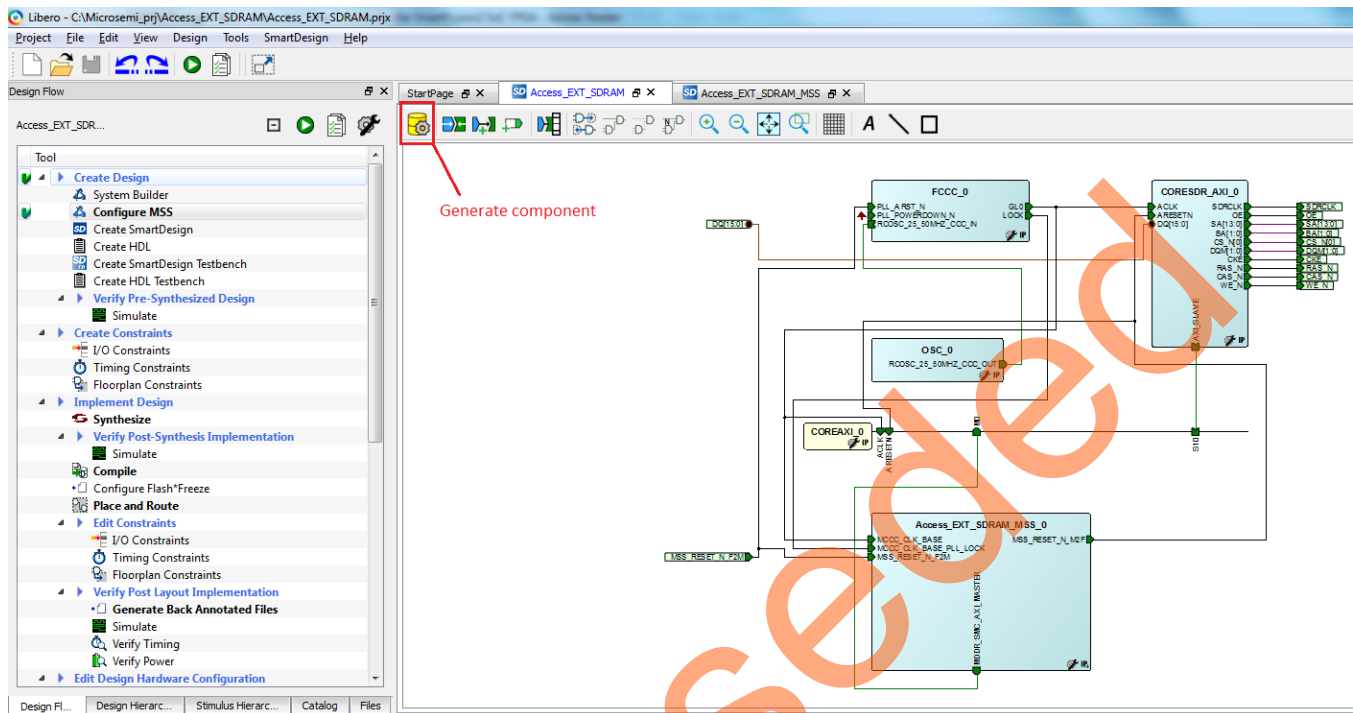

Figure 24. Generating MSS Component
1. Select **Access_EXT_SDRAM** tab on the **SmartDesign** canvas and click **Generate Component** on the SmartDesign pane (as shown in Figure 24) or select from **SmartDesign > Generate Component**.